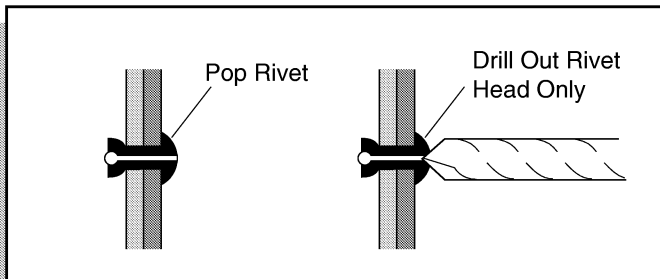

Fig. 11 Drill Out Metal Rivet
Remove rivets (27) securing the steering cover (28). The rivets can be removed by drilling into the head with a drill bit that is slightly larger than the shank of the rivet (Ref Fig. 11 on page E-8). Care must be exercised when drilling to prevent the drill from being forced through and damaging components that may be directly behind.